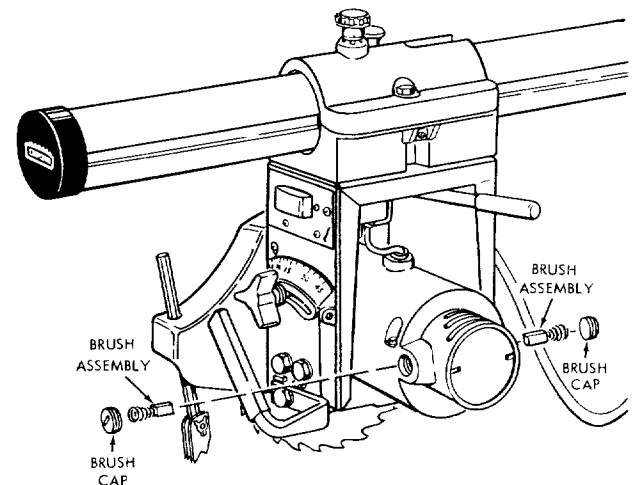

Figure 62
- (1) Disconnect power cord from power source.
- (2) Remove brush caps (figure 62) with a small screwdriver and, by grasping brush pigtails, remove the brushes.
- (3) If brushes are worn to 1/8-inch or less in length, they must be replaced.
- (4) Blow out any dust that might be in motor housing, by directing air through brush holders.
- (5) Install new brushes, making sure the curvature at the end of each brush matches the curved surface of motor commutator.
- (6) Push each brush pigtail and spring into position and, while holding it with one finger, install and tighten the brush cap.
- (7) Plug in the power cord, turn on the switch and allow the motor to run for a few minutes before sawing a board to permit the brushes to seat on the motor commutator.